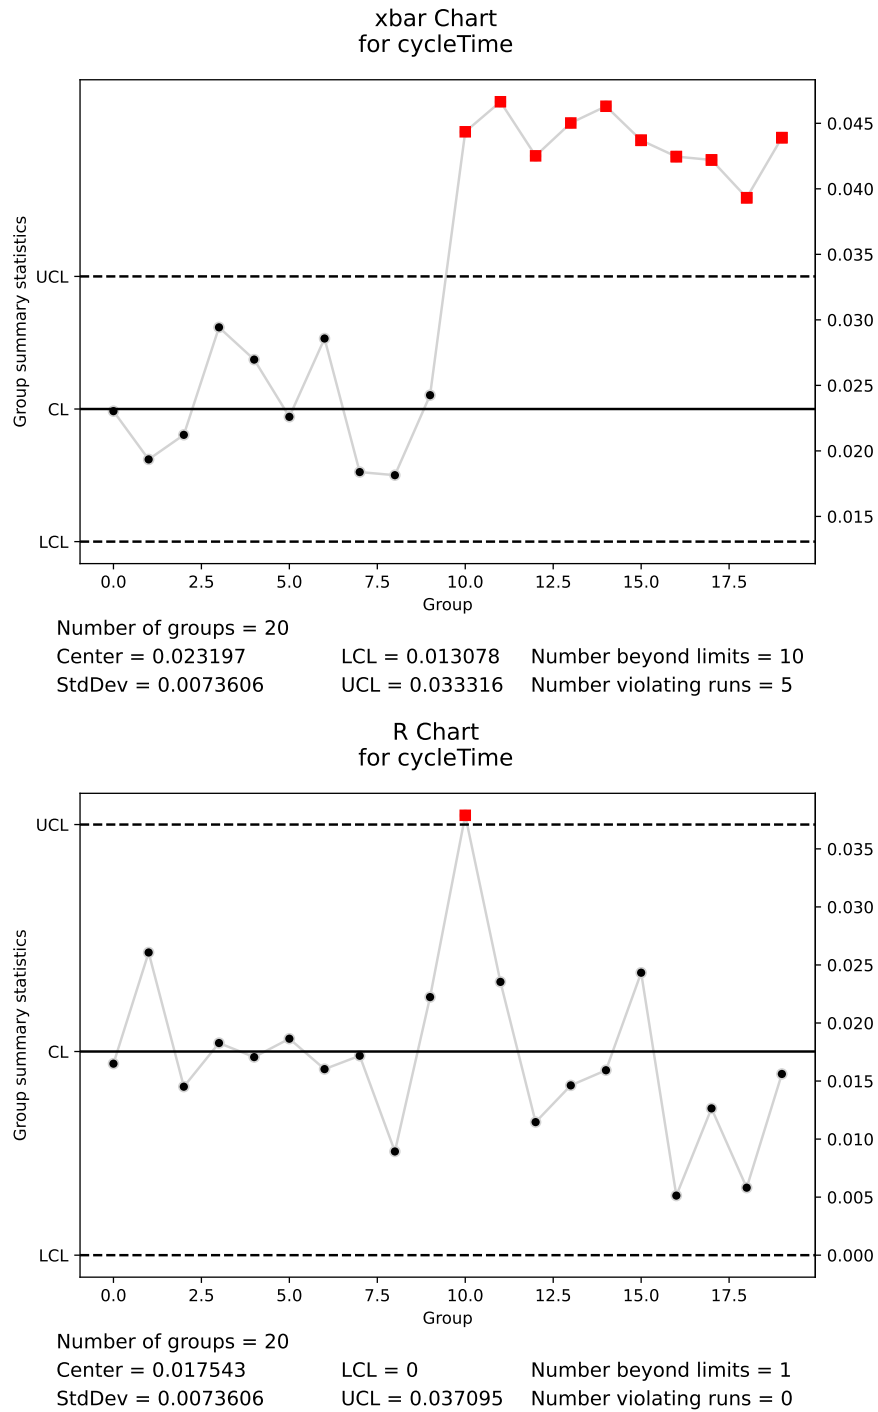

Fig. 2.6: Control charts for time shift Piston simulation (Exercise 2.14)
**Solution 2.14 Part I (a)** Fig. 2.6 is created using the following code.
See the control charts in Fig. 2.6. The increase in cycle times after group 9 is so large that the means of the subgroup are immediately out of the control limits. The shift has no influence on the ranges within subgroups.